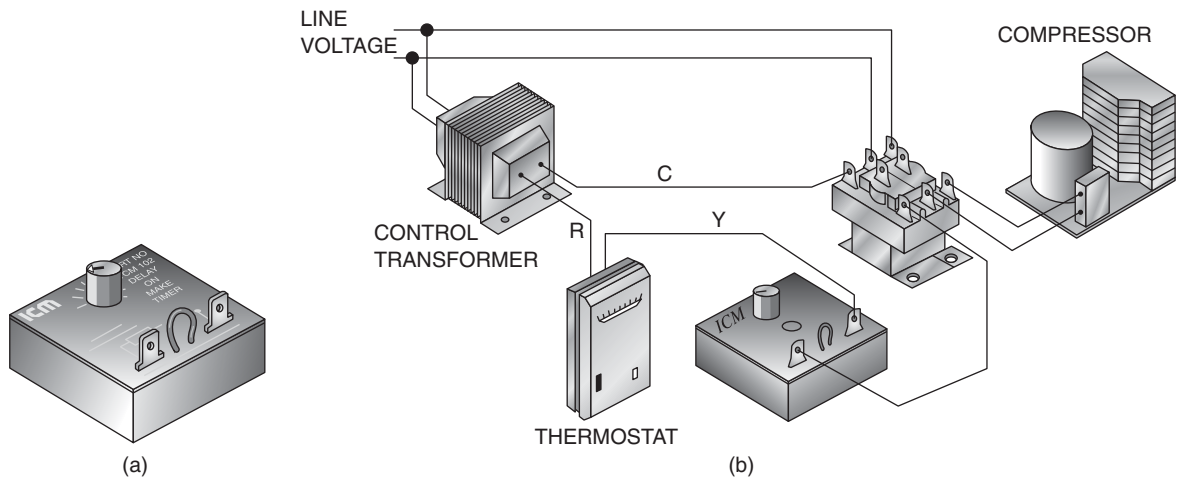

FIGURE 28-1 Delay-on-make timer.
3. What is the purpose of the time delay relay in Figure 28-1?